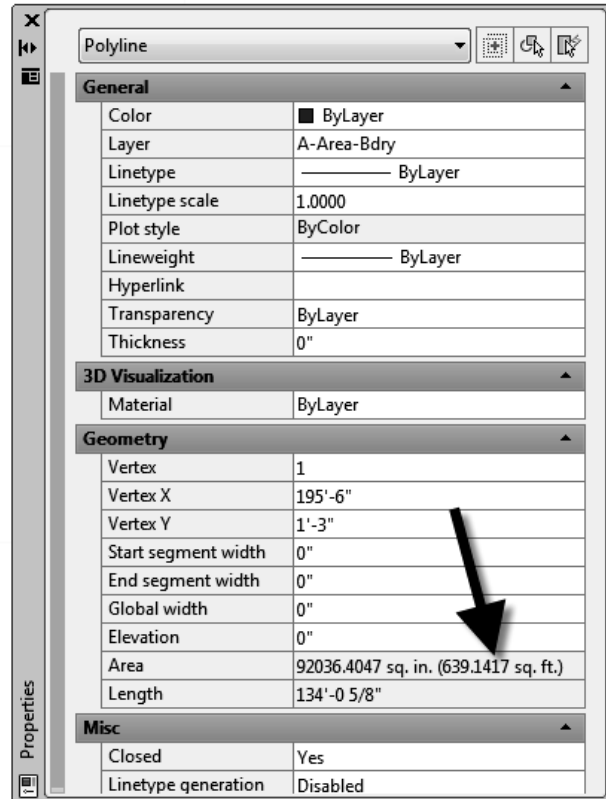

FIGURE 4-4.2 Polyline properties
7. Notice the **Area** and **Length** (which is the Perimeter in this case) properties listed (Figure 4-4.2).